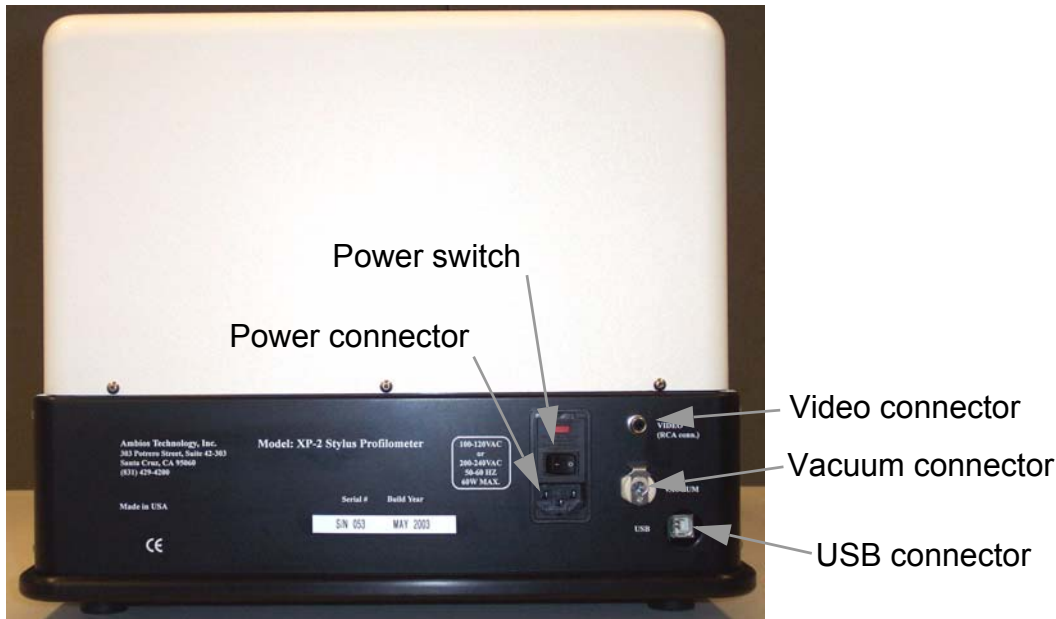

Figure 2.4: XP back panel hookups
2. Connect the cables for the XP instrument to the computer (See Figure 2.4 for back panel connector layout). The computer USB and RCA connections are port specific, be sure to connect them to the properly labeled connections.